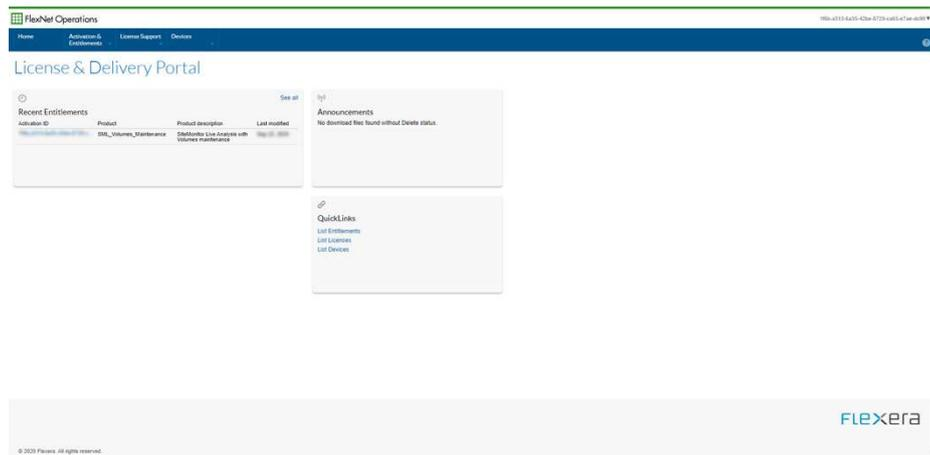

Figure 19. License and Delivery Portal.
14. If the login process is successful, this will open the License and Delivery Portal (Figure 19).